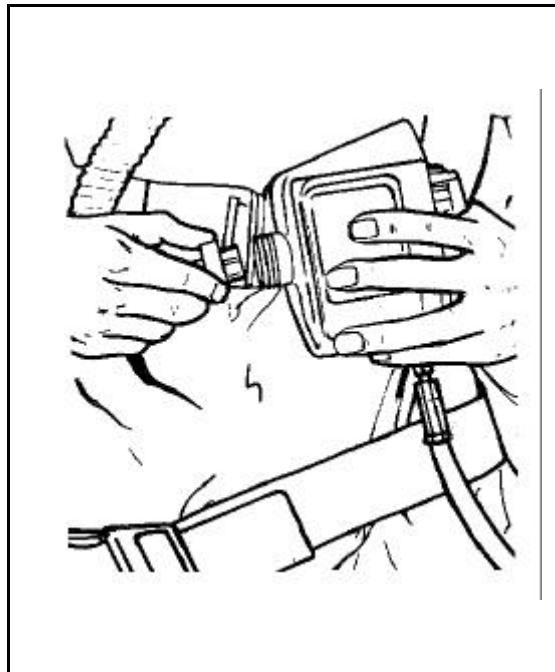

Figure 11-57. Donning the
- **Step 8.** Insert the quick connect coupling of the inhalation tube at the regulator, and tighten it down (Figure 11-57, page 11-68). To conserve air, this step should be performed just before you enter the contaminated area.